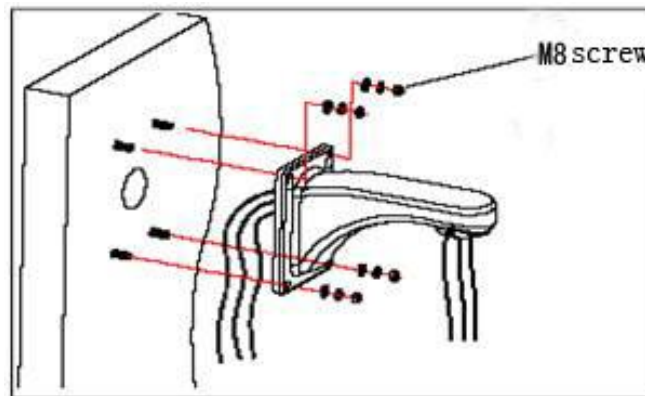

Fig 2.4
b. As shown in fig 2.4, fix the wall hanging bracket on the wall with wire and cable through it.